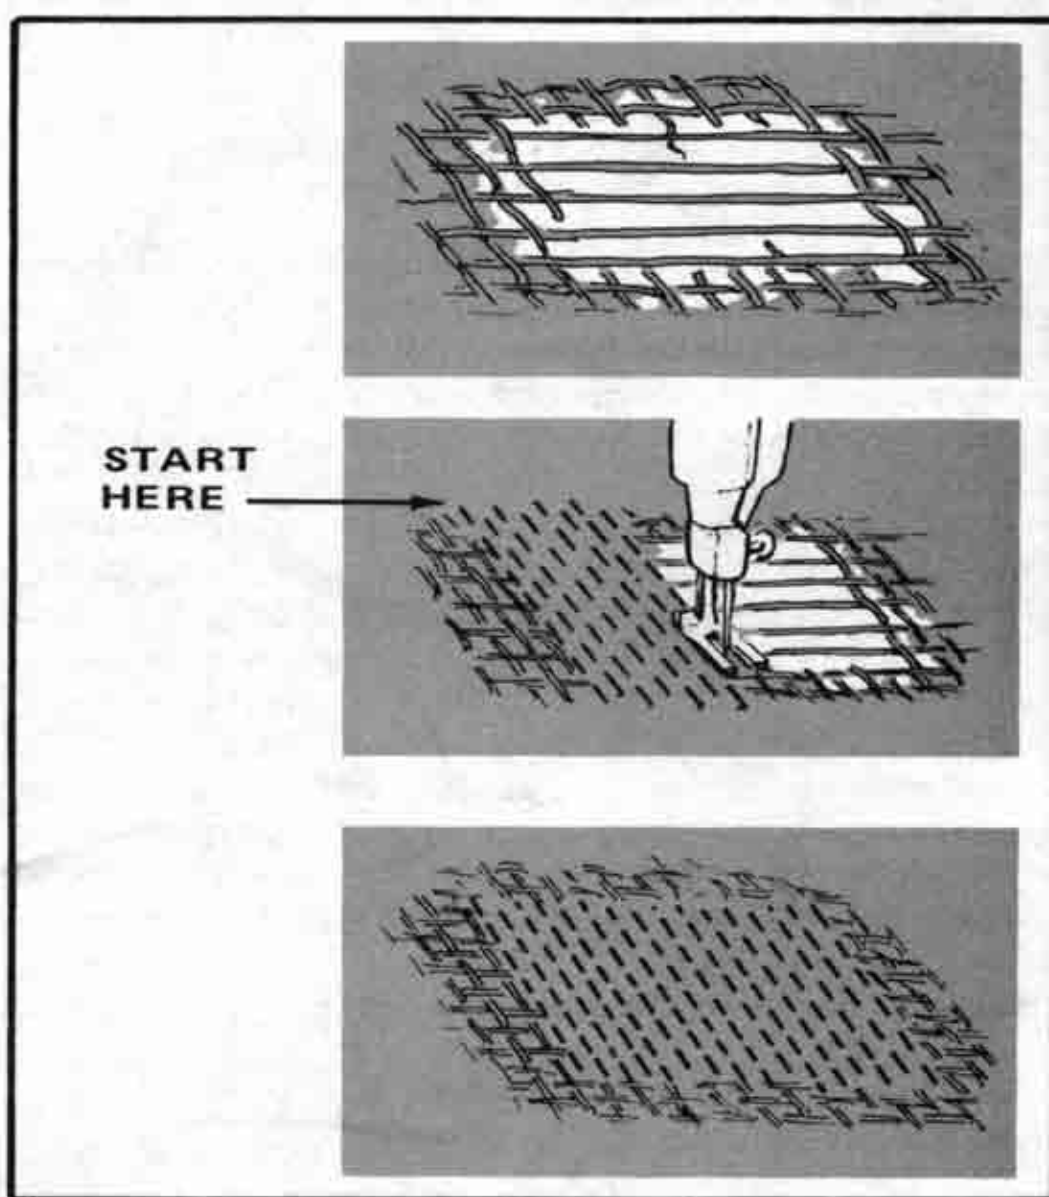

Figure 4-2. One-way darn
b. One-way Darn. The one-way darn (Figure 4-2) is used to repair small worn areas of cloth where either the vertical or horizontal threads have worn away and left the other threads loose. To make a one-way darn--
- (1) Turn the cloth faceup.
- (2) Start and end the stitching in the undamaged area about 1/4 inch from the worn spot.
- (3) Stitch back and forth either horizontally or vertically across the worn spot to replace the missing threads. Stitch all rows parallel and as close together as possible without overlapping them.